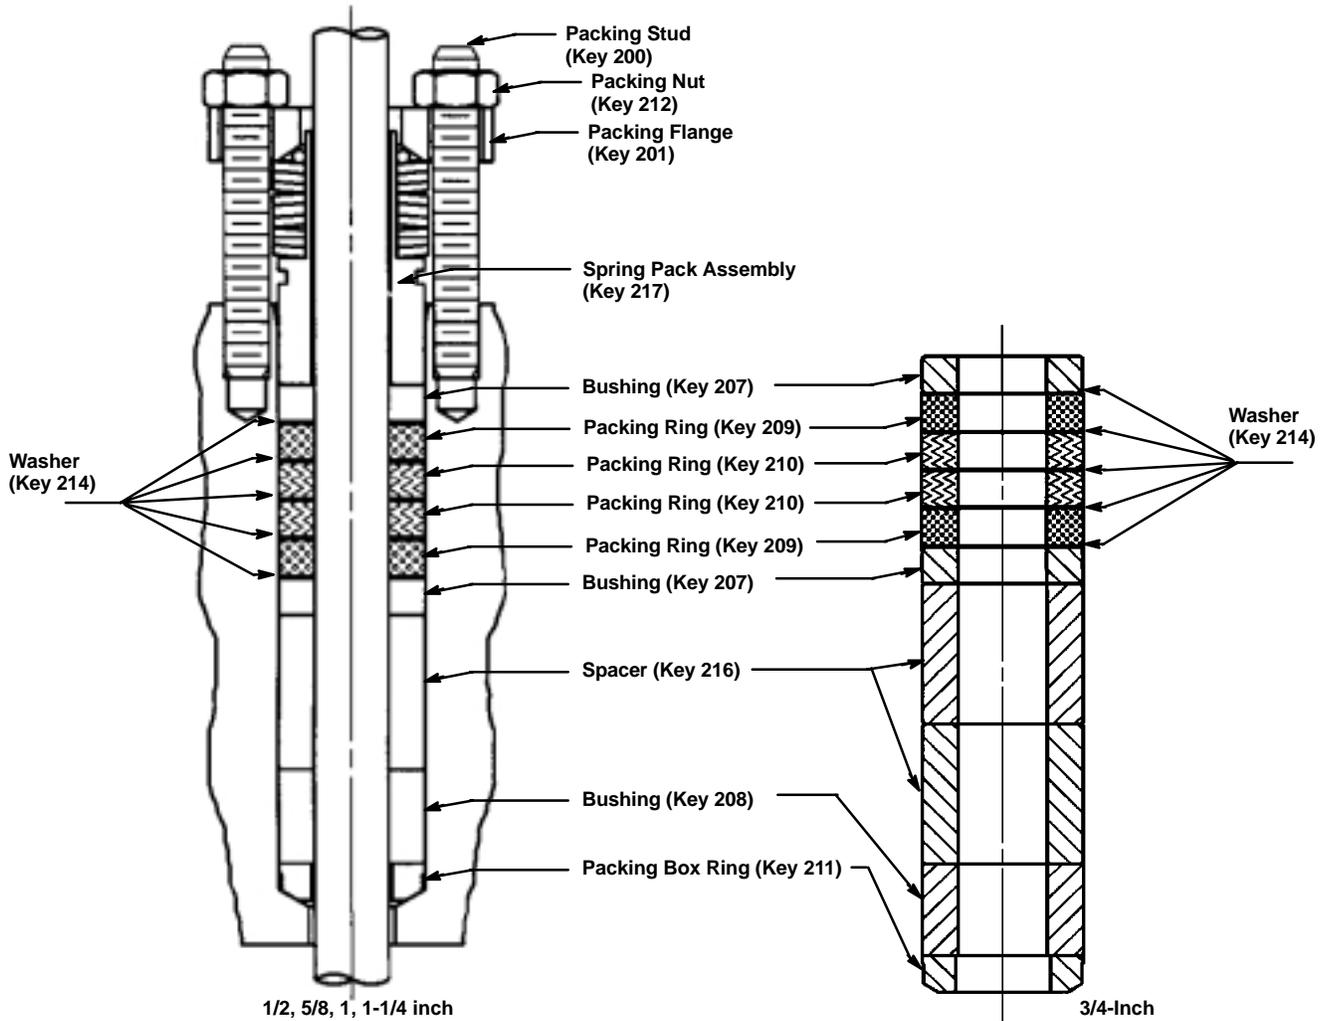

Figure 1. ENVIRO-SEAL GRAPHITE
3. Refer to figure 1 to ensure that the packing parts are assembled in the correct order. Install the ENVIRO-SEAL packing parts into the packing box.
4. Install the spring pack assembly (key 217), which includes the attached springs, and packing flange (key 201), on the stem. Install the nuts (key 212) and hand tighten them.